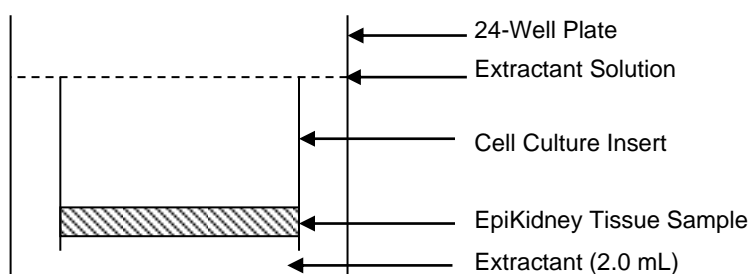

Figure 5: Extraction Configuration (room temperature in dark)
g) Reduction of MTT by test article: To ensure that the MTT reaction is accurately measuring the tissue viability, it is necessary to determine whether the test article (TA)/treatment directly reduces MTT. Prepare a 1.0 mg/mL MTT solution as above and add 100 µL of the neat TA to 1 mL of the MTT solution; alternatively, apply the treatment condition to the MTT solution. Incubate the tissue in the dark at room temperature for 60 minutes. A negative control, 100 µL of ultrapure water, is tested concurrently. If the MTT solution color turns blue/purple (or if a blue/purple precipitate is observed), the TA/ treatment has reduced the MTT; the absence of darkening indicates that the TA or treatment does not directly reduce MTT. If the MTT is reduced, a false viability measurement may be obtained. Please contact MatTek technical assistance for further guidance.
i) Add extractant: Add 2.0 mL of the extractant solution to each well to completely immerse the EpiKidney tissues. **See Figure 5.** Cover the extraction plate to reduce evaporation of extractant. Note: If the test article is colored and does not completely rinse off, pipet 1.0 mL of extractant into each well so that the MTT is extracted through the bottom of the tissue culture insert. After extraction is complete, remove the insert and add an additional 1.0 mL of extractant to bring the total volume to 2.0 mL.